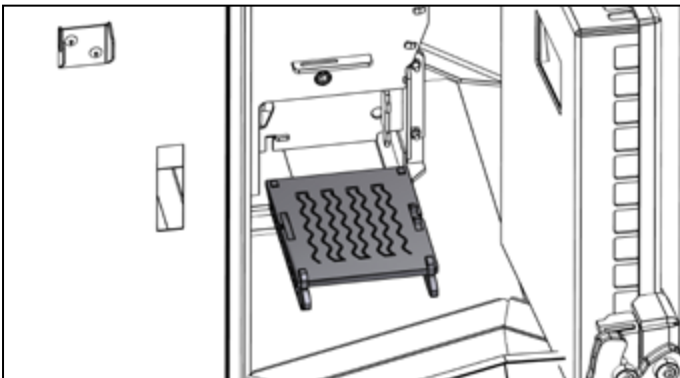

Figure 12-14: Removal of brazier base plate
- Using the multi-purpose tool supplied with the boiler, remove the brazier base plate from the lower front of the burner housing. Refer to Figure 12-14.